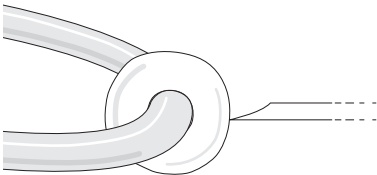

Fig. 24—Filament expands and contacts the tip
4. Press the RUN button. The filament expands, touching the tip of the beveled glass. As glass the bead becomes molten and the beveled tip makes contact with the bead, quickly pull the tip away and simultaneously release the RUN button to turn off the heat. (Fig. 24).